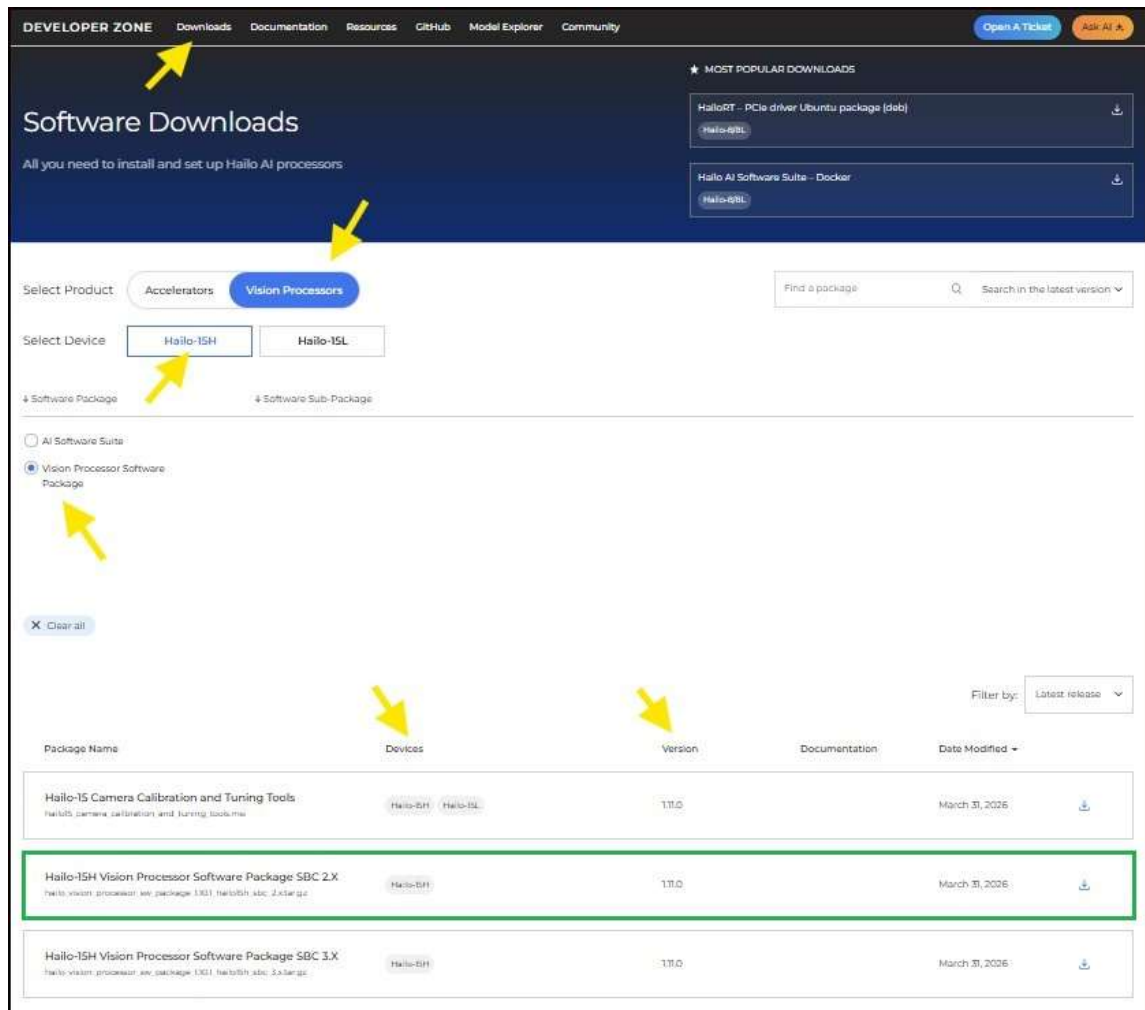

Figure 10. Software Download Page in the Hailo Developer Zone
1. Download the Hailo-15H Vision Processor Software Package from Hailo Developer Zone (See Link) as shown in Figure 10